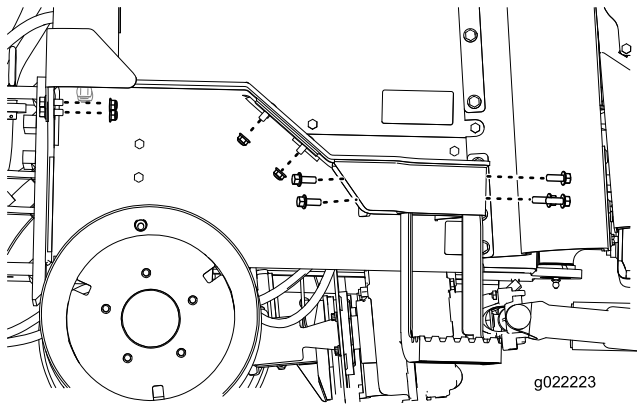

Figure 13
3. Remove the step extension from the machine (Figure 13).